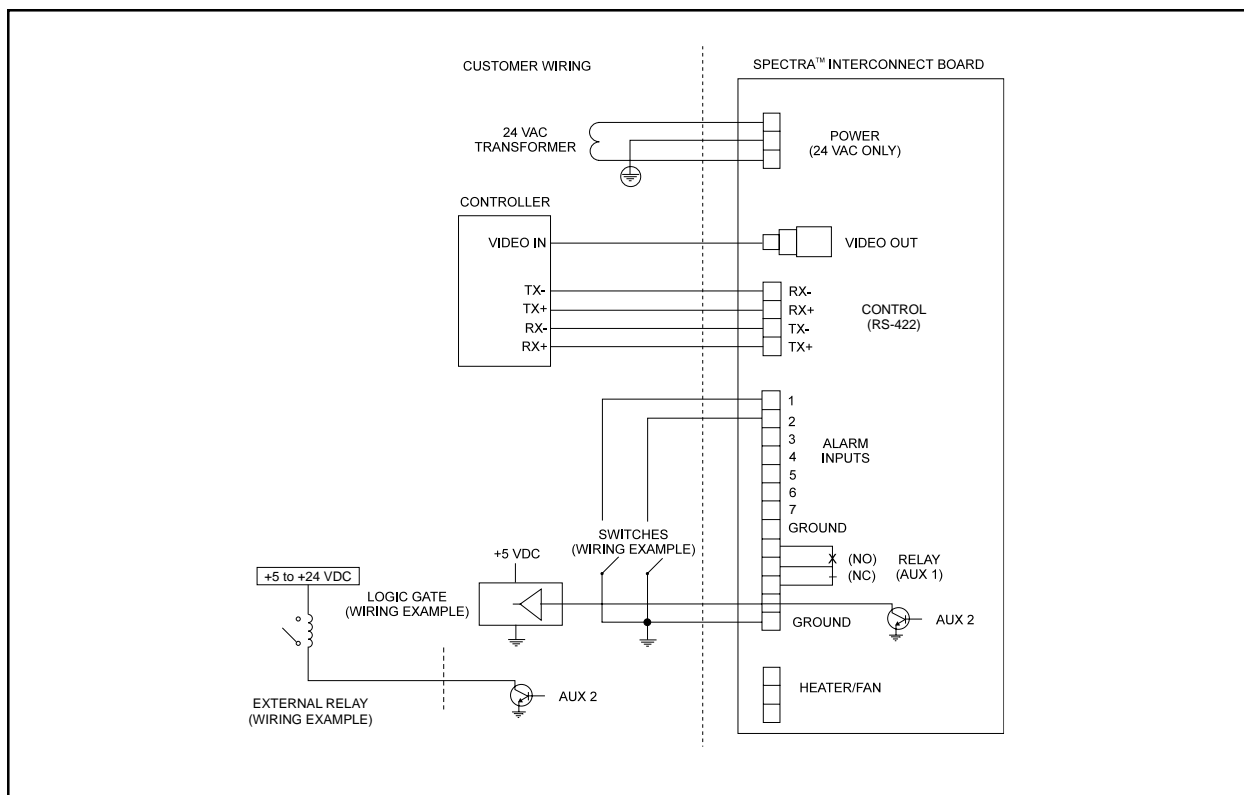
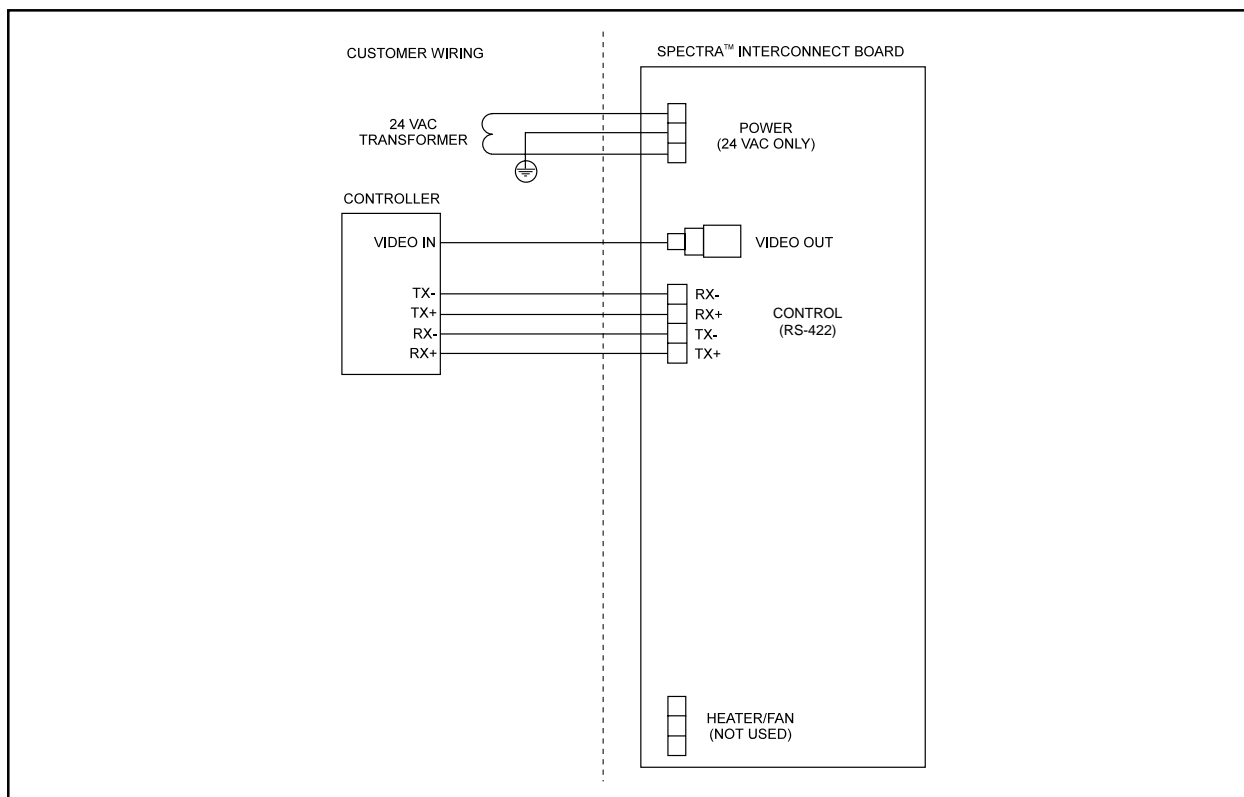
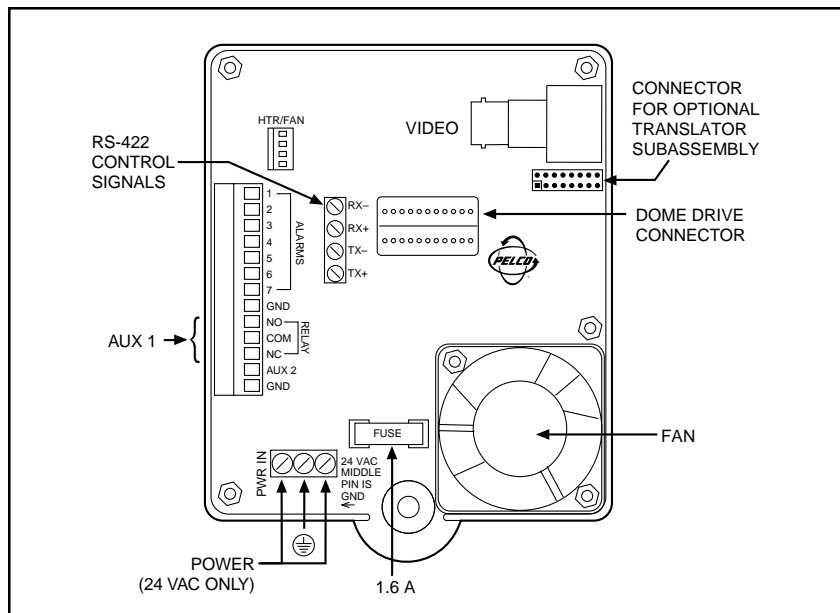

Figure 6. Wiring Diagram for Spectra™ (Ver. 3.0) and Spectra II™
Figure 7. Wiring Diagram for Spectra™ Lite
Figure 10. Interconnect Circuit Board Electrical Connections for Spectra™ (Ver. 3.0) and Spectra II™
Refer to Figure 6 for the wiring diagram for Spectra™ (Version 3.0) and Spectra II™, and to Figure 7 for the Spectra™ Lite.
Depending on the type of dome, refer to either Figure 10 or 11 to attach the wiring to the interconnect circuit board inside the back box. Also refer to Figure 6 or 7 if necessary.
6. **Alarm Inputs - (Spectra™ [Version 3.0] and Spectra II™ Only)** If you need alarm inputs, connect them. The maximum number of alarm inputs is seven. Refer to Figure 6 for a typical wiring example. Alarm inputs require a ground signal through a contact closure, such as a switch.
7. **AUX 1 - (Spectra™ [Version 3.0] and Spectra II™ Only)** An AUX 1 command from the controller will activate the relay output. If you need the relay, wire it as required. Refer to Figure 6. The relay contacts are shown when AUX 1 is inactive. When an AUX 1 command is issued, the relay contacts will reverse and remain latched until a clear command is issued.
8. **AUX 2 - (Spectra™ [Version 3.0] and Spectra II™ Only)** An AUX 2 command from the controller will place a ground at the output of AUX 2 to operate the device connected to it. The output will remain latched until a clear command is issued. If you need the AUX 2 output, wire it as required. Refer to Figure 6 for typical wiring examples. The AUX 2 output is an open collector transistor driver which is capable of passing a maximum of 150 mA at 32 VDC. It is capable of driving TTL logic circuits or low-current reed relays. If you use an external relay, make sure that both the supply voltage and the current requirements are well below the maximum of 32 VDC and 150 mA. Exceeding these values will cause permanent damage to the dome. If you are not familiar with open collector drive requirements, contact Pelco technical support for assistance.
2. Open the door to the interconnect circuit board and check the fuse. Refer to Figure 10 for the location of the fuse. If the fuse is bad, replace it. To order a replacement fuse from Pelco, specify the part number FUS1.6-5X20FAST. This is a 1.6-ampere fuse, 5 x 20 mm, fast blow.
3. If the fuse is good, turn on power and use a voltmeter to check if 24 VAC is getting to the power connector on the interconnect circuit board. Refer to Figure 10 for the location of the AC power connector.